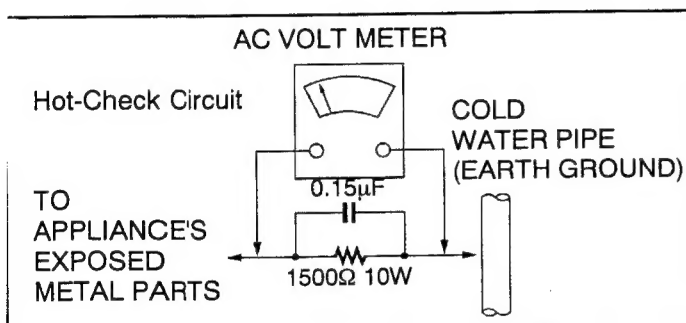

Figure 1
LEAKAGE CURRENT HOT CHECK (See Figure 1)
2. Connect a $1.5k\Omega$, 10W resistor, in parallel with $0.15\mu F$ capacitor, between each exposed metallic part on the set and a good earth ground such as a water pipe, as shown in Figure 1.